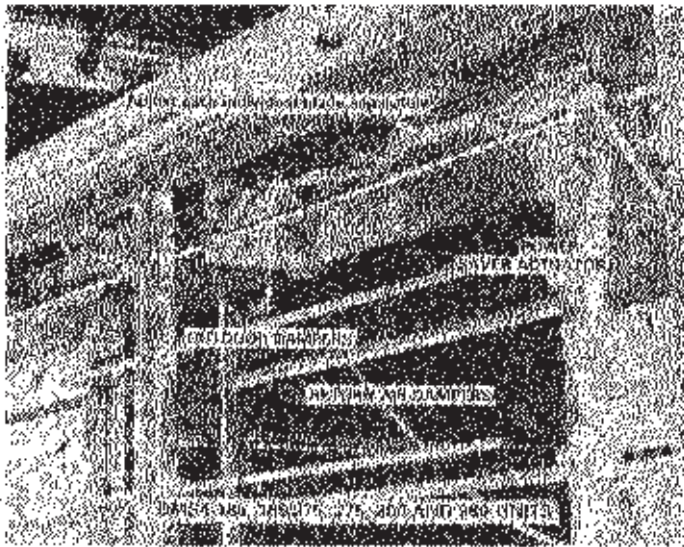
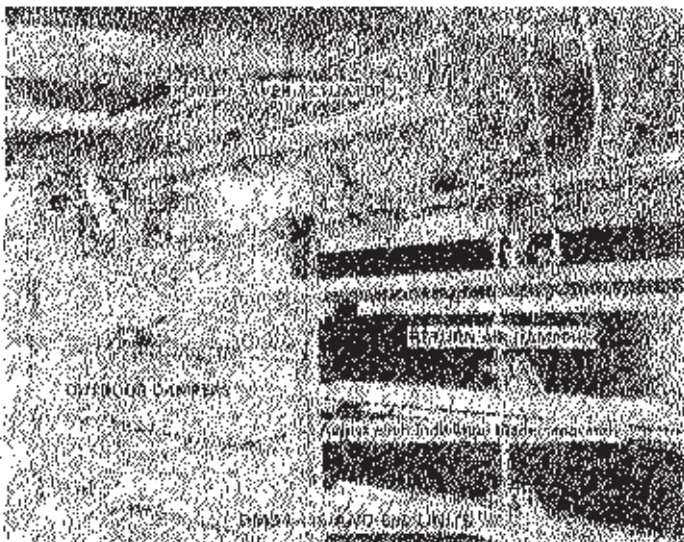

FIGURE 61
FIGURE 62
- 1 - Remove the lead from terminal IR at outdoor actuator to drive outdoor dampers closed and return air dampers open. Adjust each individual damper blade separately. Refer to Figure 61 for -185, 205, 300 & 360 units or Figure 62 for -415 & 600 units.